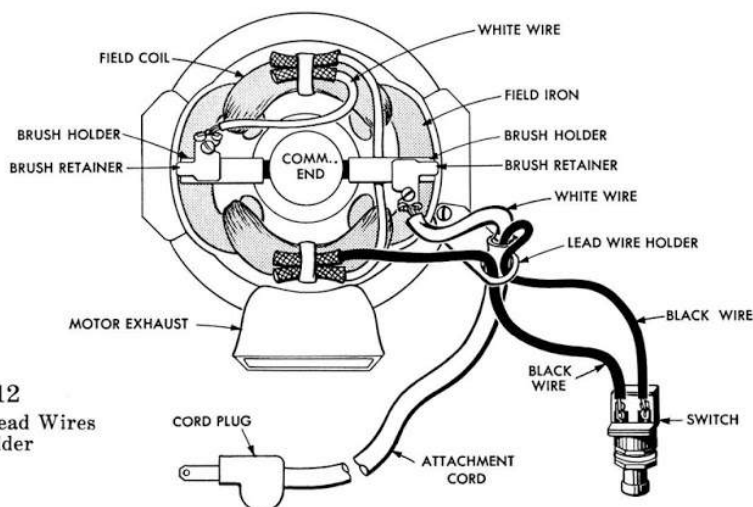

Fig. 12
- See wiring diagram for motor and cord connections. *Fig. 12.*